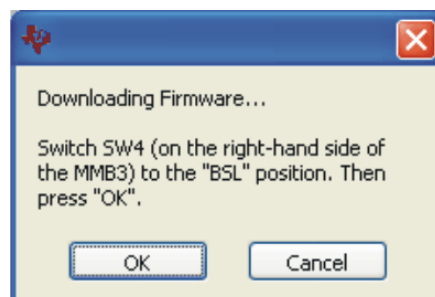

Figure 12. Firmware Download Message Box
- Step 5. The plug-in detects whether or not the board has the correct firmware loaded. The first time you use the ADS1248EVM-PDK, the firmware for the MMB3 may need to be downloaded to the MMB3. If the firmware needs to be loaded, you will see a screen as shown in Figure 12.